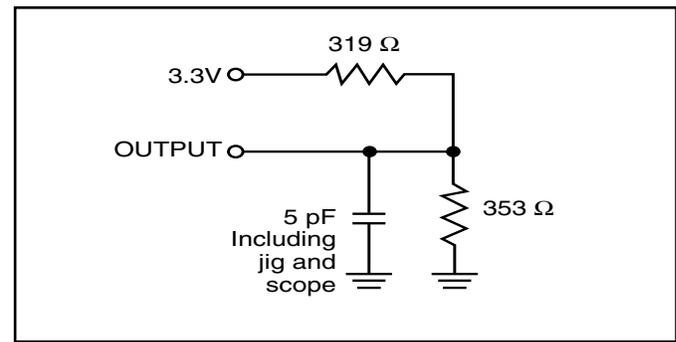

Figure 2.
2. Tested with the load in Figure 2. Transition is measured ±500 mV from steady-state voltage.
2. Tested with the load in Figure 2. Transition is measured  $\pm 500$  mV from steady-state voltage. Not 100% tested.